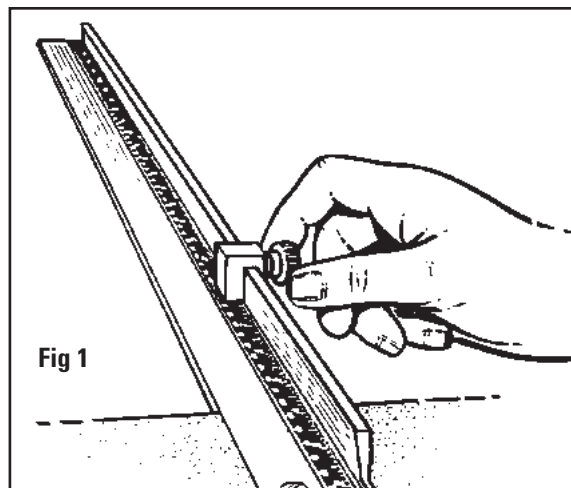

Fig 1
23. Blades (Fig. 1, pg. 5)
Remove the corrugated cardboard fillers and lift your Framer's Edge Mat Cutter out of the shipping box. **SAVE THE BOX.** Remove the parts bag and check the contents: **Fig 1**
1. Remove the mat guide, backing sheet, the squaring arm stop and the production stop. Attach the squaring arm stop onto the far right end of the squaring arm and slide inward until the left side of the stop is along the increment needed to downsize your mat board to. **Fig 1**
2. To release mat guide loosen the black knobs two turns. Slide the mat guide in the angled slots until the front edge of the mat guide is along the increment of the mat guide scale of the border width you wish to cut. **Fig 1**
To adjust the blade depth on the bevel cut, use the screwdriver provided and turn the screwdriver in the slotted screw on the cutting head as shown. To decrease depth of the bevel blade, turn the screw clockwise into the cutting head. To increase the depth of the bevel blade, turn the screw counter-clockwise out of the cutting head. **Fig 1**
Located on top of cutting head, use screw driver provided to turn screw (Fig 1, page 10). By adjusting this screw you will effect the depth at which the straight cut blade holder locks into when the lock down pin automatically engages. To decrease depth of the straight blade, turn the screw clockwise into the cutting head. To increase the depth of the straight blade, turn the screw counter-clockwise out of the cutting head.